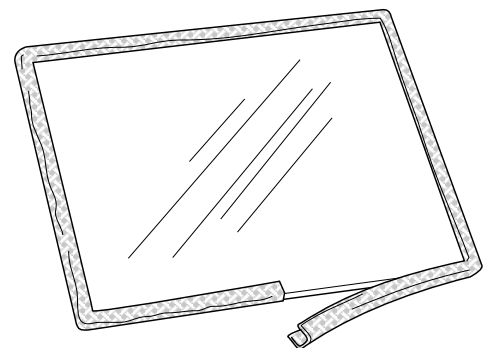

Figure 32. Wrap the gasket around the glass panel.
5. Remove the old gasket material. See fig. 32. Glass Panel or Gasket Replacement
1. Wrap the new gasketing material evenly around the edge of the glass, peeling back the protective strip to expose the adhesive as you go. See fig. 32. Press the adhesive side down onto the glass surface. Do not stretch the gasket.